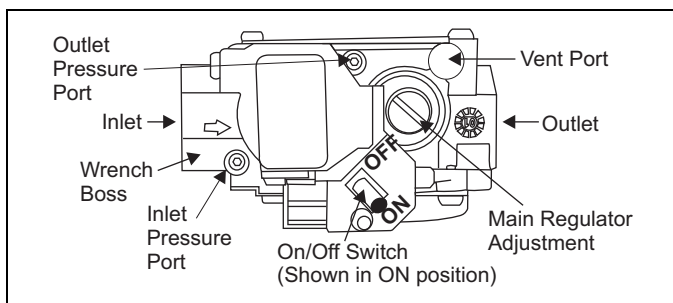

FIGURE 9: Single Stage Gas Valve
2. Check that the manual gas shut-off valve in the gas piping supply is turned to the ON position. Refer to Figure 9.
3. Check that the ON/OFF switch on the gas valve is turned to the ON position. Refer to Figures 9, 7 or 8.